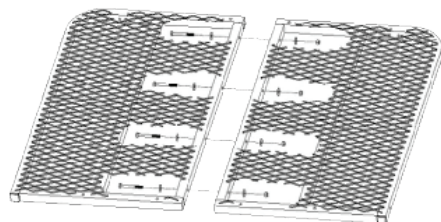

Figure 16
STEP 1: Place the two (2) platform sections together as shown in Figure 16 and bolt together using four (4) 2 3/4" bolts, eight (8) washers, and four (4) locknuts. Make certain to place a washer under the head of each bolt and under each locknut. Tighten locknuts to 50 inch pounds.